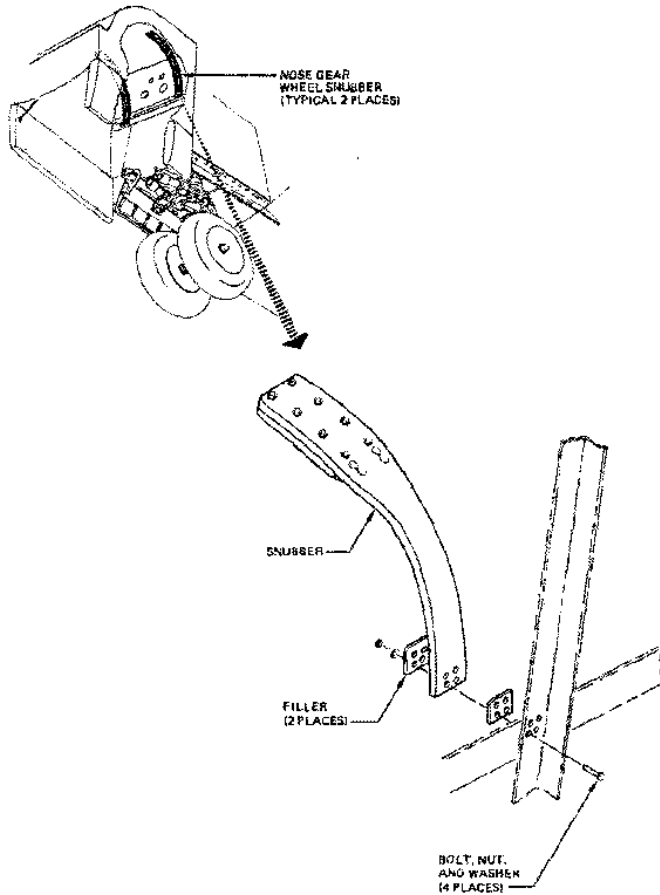

Fig. 1 Nose Gear Wheel Snubber Removal/Installation
- 1.3 Remove nuts, washers and fillers and remove snubbers (see fig.1)